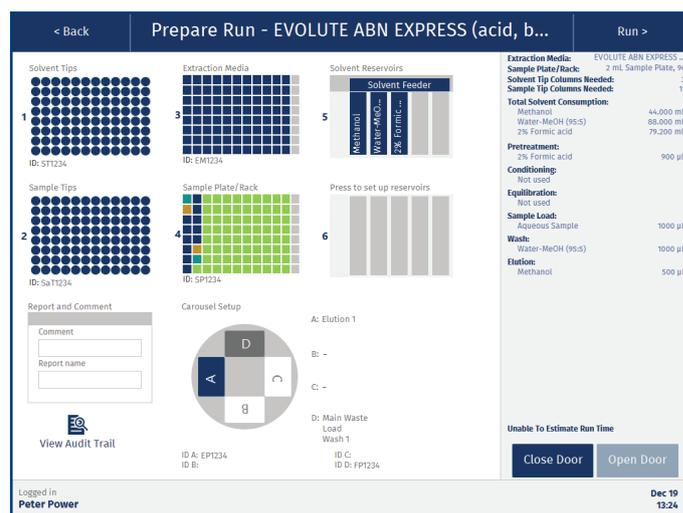

Figure 14. The Prepare Run view.
Identification (ID) information can be entered for all solvents, racks, plates, and pipette tips used in the run by pressing the corresponding positions in the **Prepare Run** view; see Figure 14.